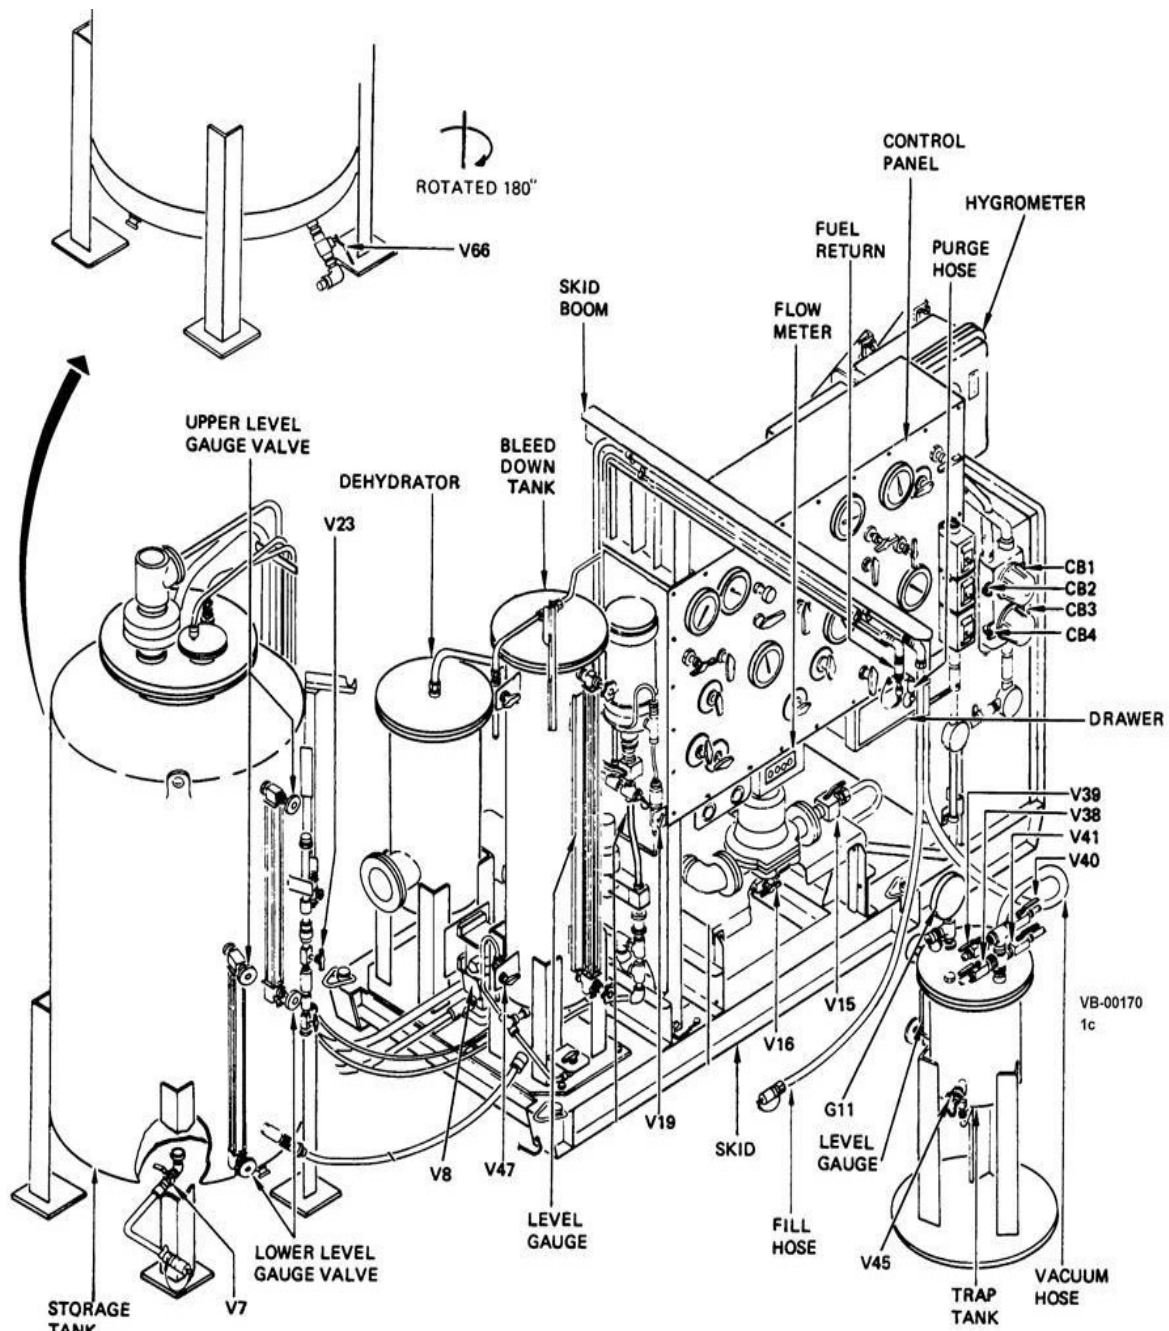

Figure 4-5. Fuel/defuel set.
The fuel/defuel set is used for two main reasons: (1) to supply pressurized filtered fuel for servicing a missile, and (2) to drain and purge fuel from the missile. There are five systems that pertain to the fuel defuel set: shop air, nitrogen, fuel piping, vent, and vacuum systems. The fuel/defuel set and its control panel are illustrated below in figures 4-5 and 4-6 respectively.